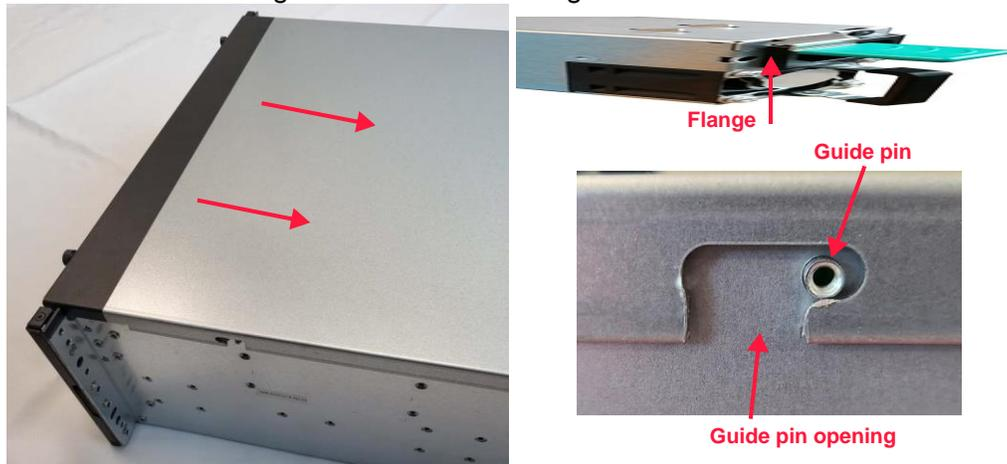

Figure 3.18 Top cover reinstallation
1. Align the top cover with the chassis. Ensure the six guide pins (three on each side of the chassis) are aligned with the six guide pin openings (three on each side of the cover), and that the flange on the enclosure rear is properly aligned to the rear edge of the cover. See Figure 3.18.